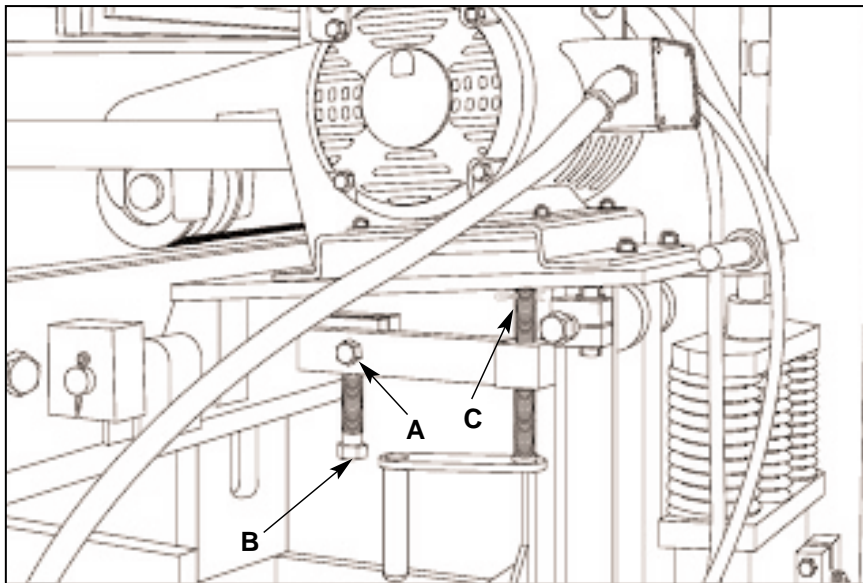

Figure 5.23 VIBRATING MOTOR HEIGHT ADJUSTMENT SCREW (B).
- 5.5.18 Loosen clamp bolt (A) (see figure 5.23).
- 5.5.19 Turn adjusting screw (B) up until it contacts under side of right hand vibrating motor support plate (see figure 5.23). The adjusting screw (B) is located under the right vibrating motor.
- 5.5.23 Recheck 1" dimension. During vibration, if mold works off center to the right, turn adjusting screw (B) up (see figure 5.23) which will move the vibrating motor up. If molds works off center to the left, turn adjusting screw (B) down (see figure 5.23).
Note: Make sure base is not on the jacking screw (C) when adjusting vibrating motor height (see figure 5.23).